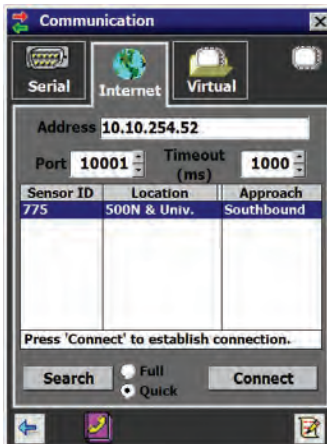

Figure 5.7 – Internet Connection Screen
- 8 Click on the desired row from the list to select a sensor (see Figure 5.7).